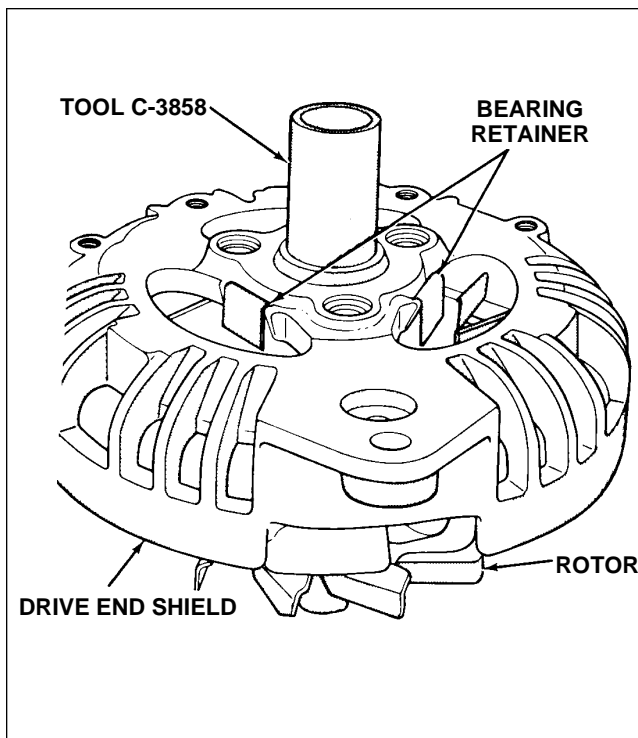

Figure 11-34. Installation of Drive End Shield Bearing
d. Position bearing and drive end shield on rotor shaft, hold rotor shaft base, and press bearing end shield into position on rotor shaft with an arbor press and tool C-3858. (Refer to Figure 11-34.)